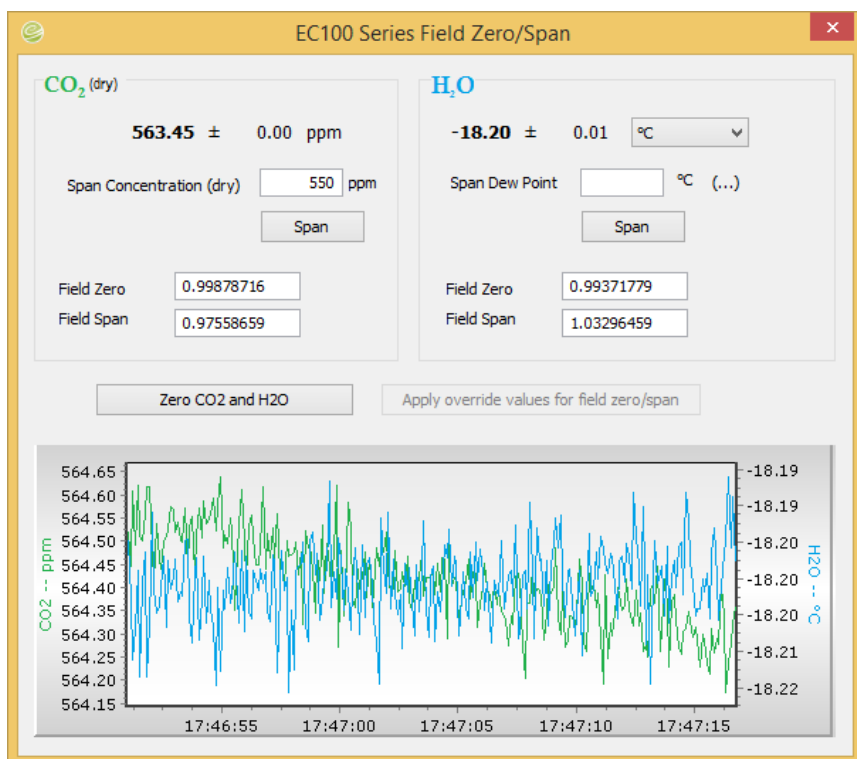

FIGURE 9-10. *ECMon* Zero/Span window
6. Click on the **Zero/Span** button on the main screen of *ECMon*. A real-time graph at the bottom of the window will appear that displays concentrations of CO₂ and H₂O (see FIGURE 9-10).